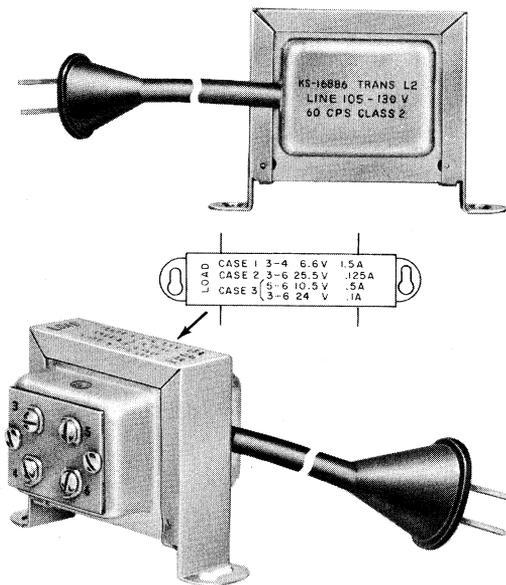

Fig. 8—KS-16886L2 Transformer
- 3.01 The KS-16886L2 transformer (Fig. 8) is primarily intended as the centralized power